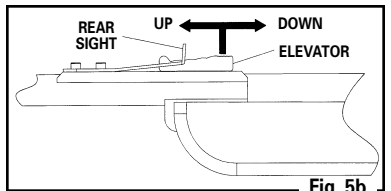

Fig. 5b
**Model RM277/RM377:** The rear sight may be adjusted to shoot higher or lower (elevation). Move the rear sight elevator back to make the pellet hit higher on the target. Move the rear sight elevator forward to make the pellet hit lower on the target. When moving the elevator, slightly lift the rear sight and reset it on the desired notch in the elevator. (Fig. 5b)